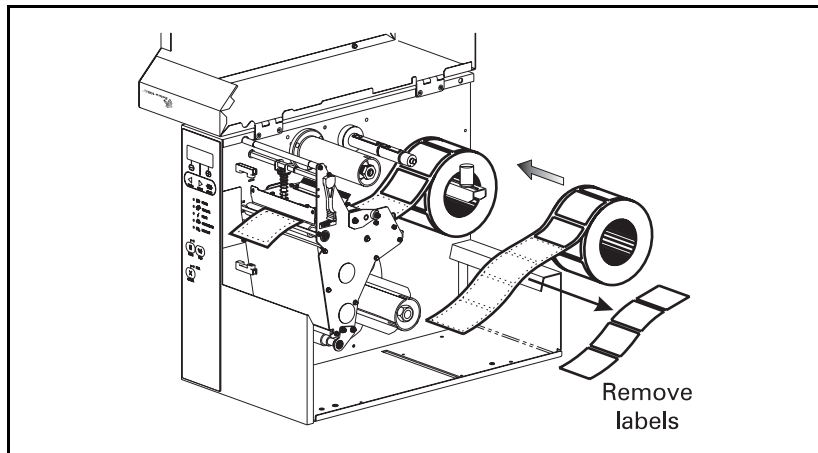

Figure 10. Media and Ribbon Calibration
4. Open the printhead. Remove approximately 8 in. (200 mm) of labels from the media roll, enough so that only the liner is threaded between the media sensors when the media is loaded (refer to Figure 10).